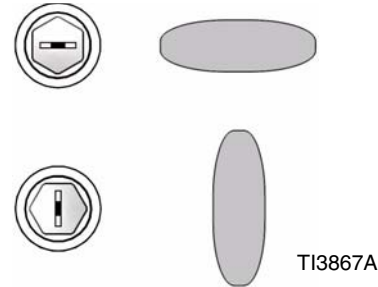

FIG. 2
- Remove the existing air cap (round or flat) from the Fusion Gun and replace it with the adapter (1). Thread the adapter onto the mix chamber until it bottoms out.
- Insert the packing (2) through the center of the adapter (1) with the stepped end facing the mix chamber.
- Place the stud wall tip (4) onto the packing (2) and tighten the air cap (3) with light hand force.
- Adjust the tip orientation with a standard 5/16 in. nut driver (provided with gun). See FIG. 2.